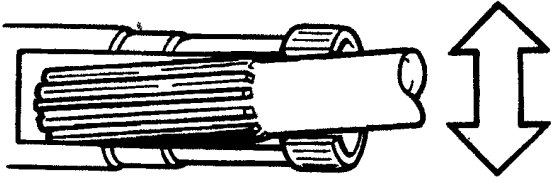

Figure 8 Check Slip Joint For Excessive Movement
4. Check slip joint for excessive movement as shown in Figure 8, If looseness between slip yoke and tube stub shaft exceeds .012" (.305 mm), replace the slip joint.